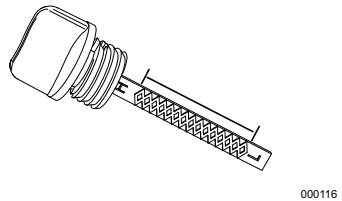

Figure 2-7. Safe Operating Range
- See Figure 2-7. Remove dipstick and verify oil level is within safe operating range.